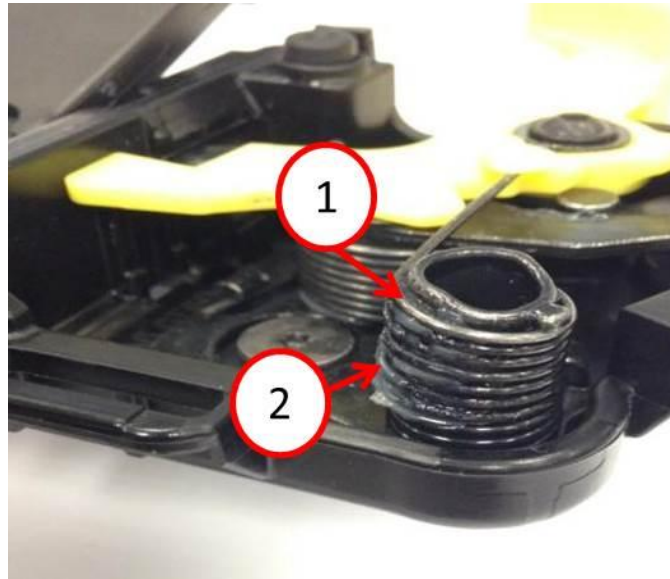

Fig. 12 Lever Spring Greased
47. Using a suitable brush and NYE grease (P/N 05019060AA), brush grease into all the spring coils on the lever spring (Fig. 12).